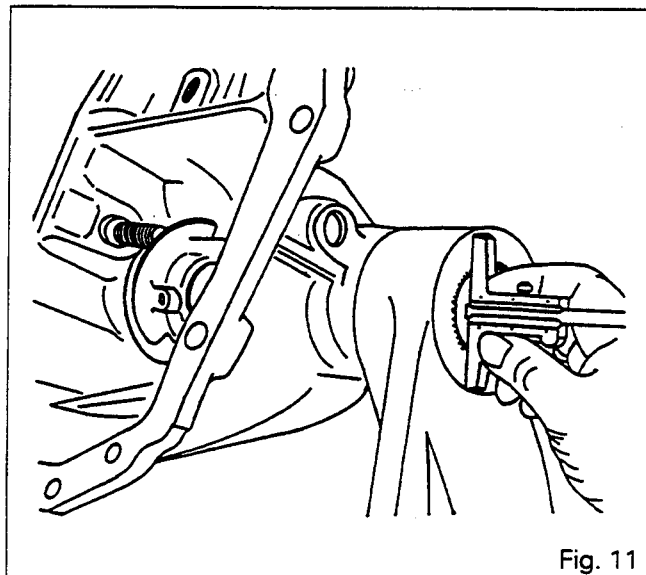

Fig. 11
42. Tighten the bolt so as to position the lift arms (5) and (11) correctly on the shaft.
43. Remove the bolt (2) and the washer (1) at the left end of the shaft.
44. Measure the distance between face A of the shaft and face B of the arm using a depth gauge (Figs. 11 and 12).